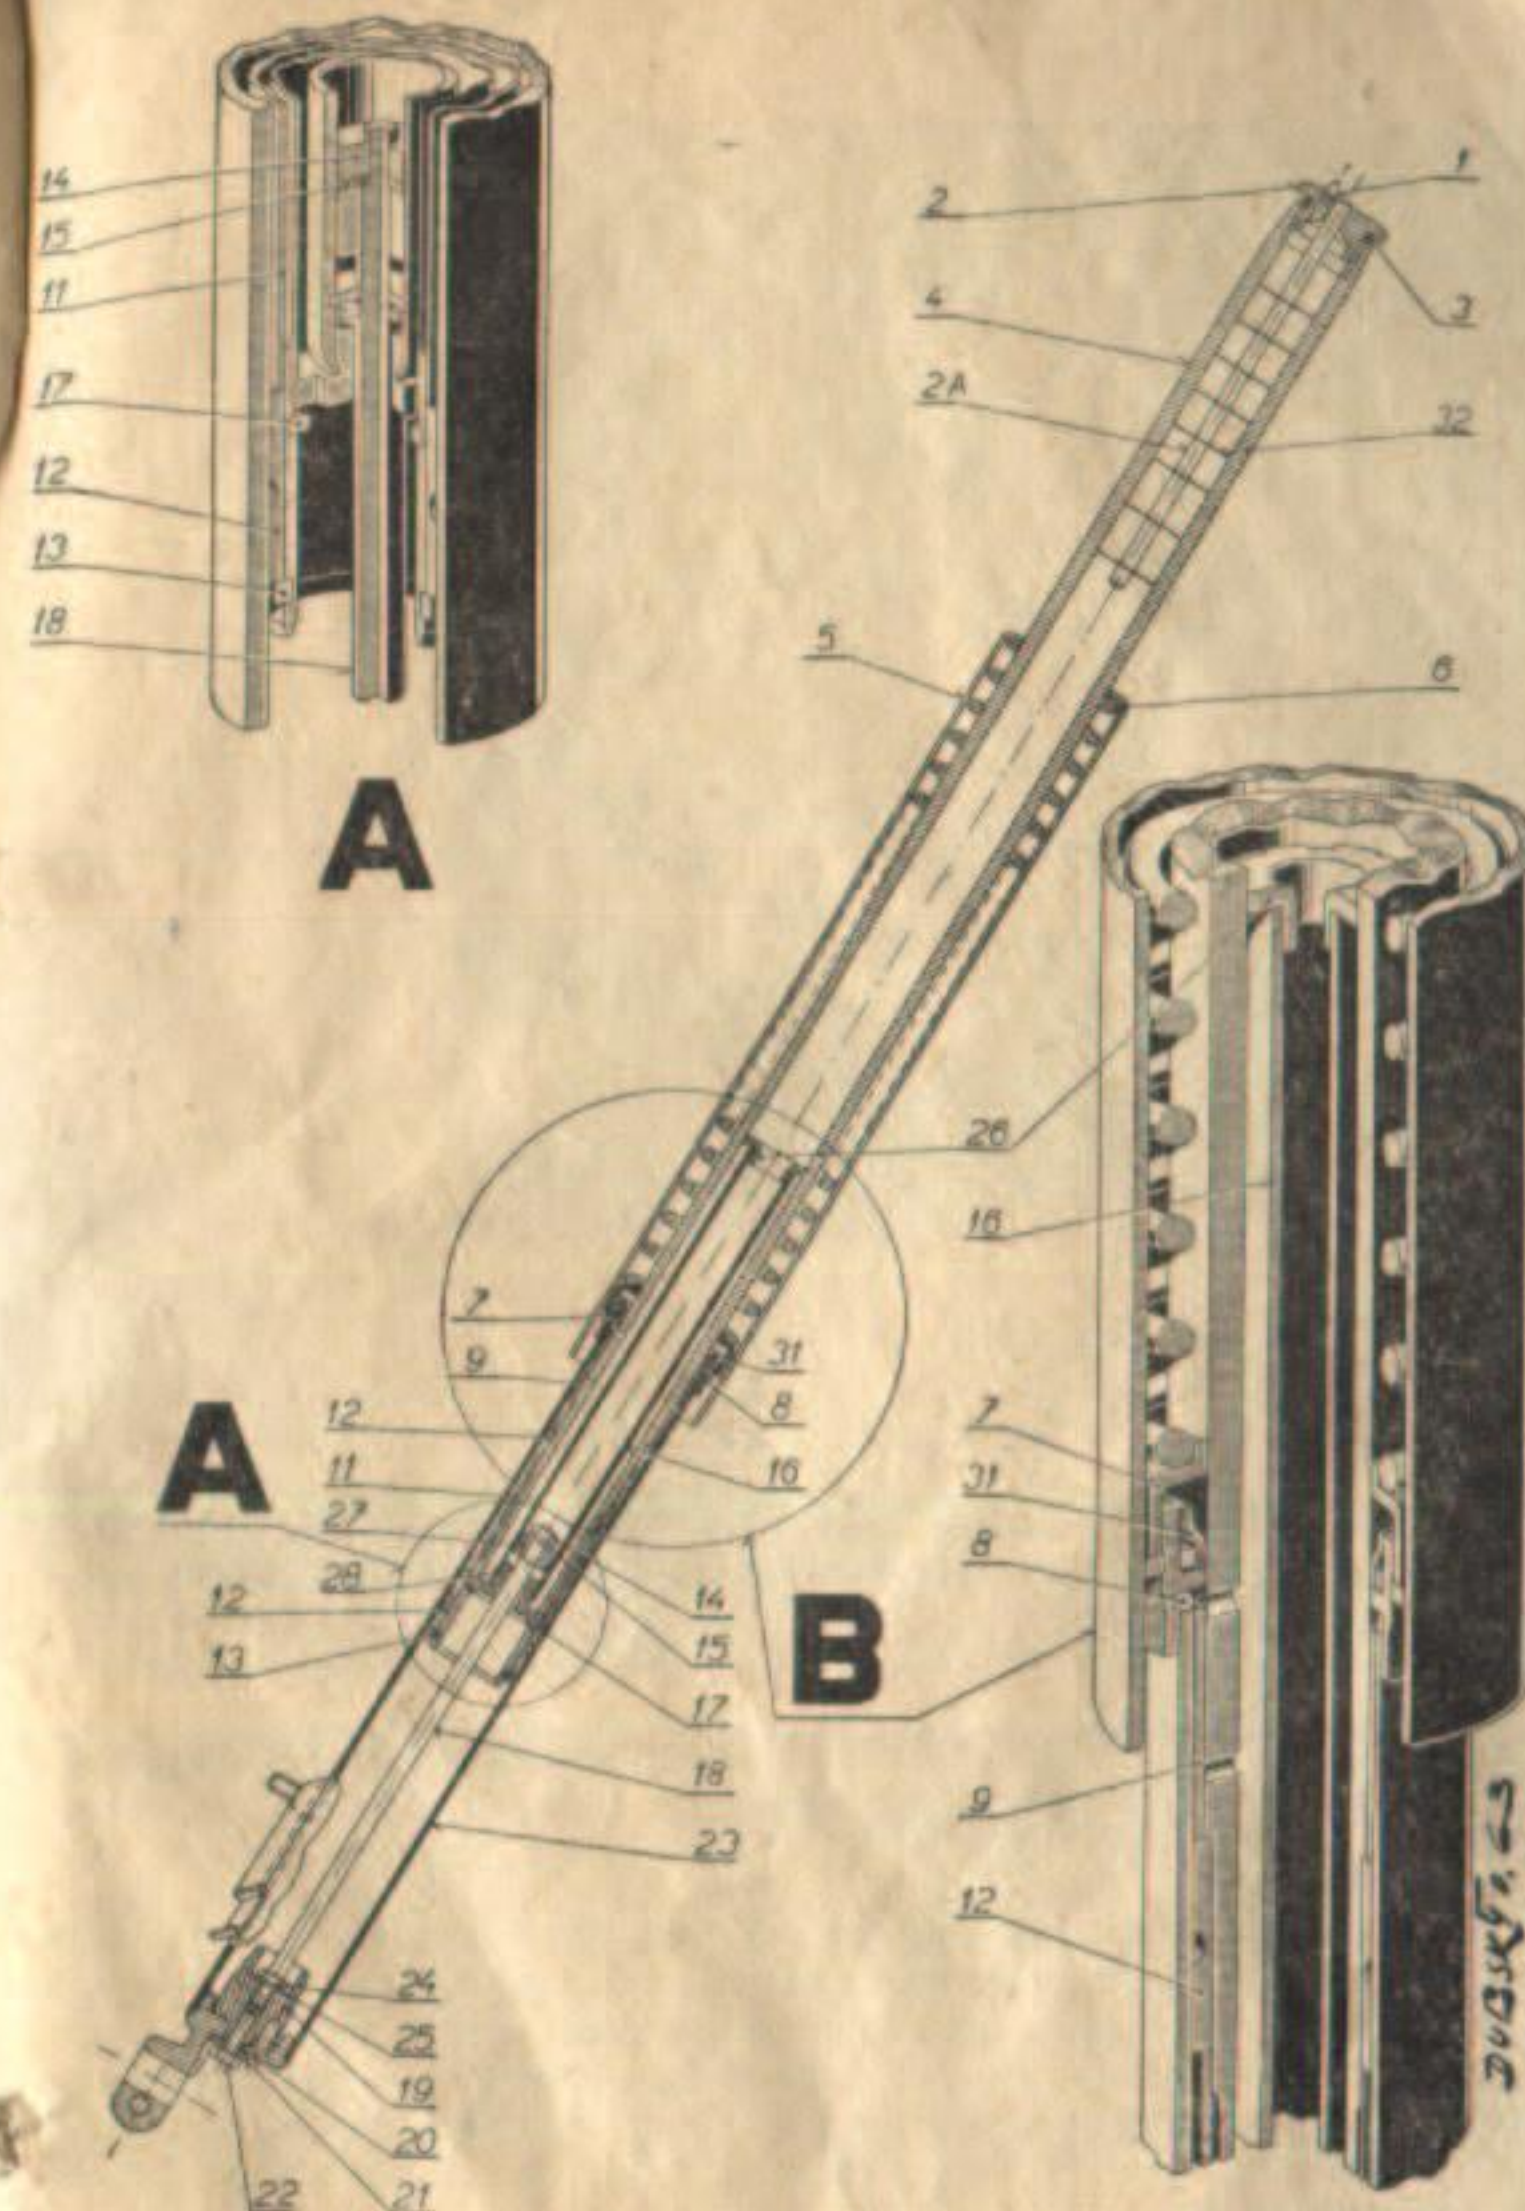

Fig. 15 - Front fork - sectional view
The telescopic front fork dampers (Fig. 15): After the first 600 to 900 miles (1,000—1,500 km) change the damper oil from both front fork legs. Change in the following manner: Remove the front wheel, unscrew the screw (22) on the bottom portion of the fork by about 7 mm, press it into the slider by means of the screw (22), rotate the end piece (19) through approx 90° and let the oil drain out. Now close the slider in the following manner: using the screw (22) turn the end piece (19) into its original position, i. e. **until the end piece (19) pin engages in the hole**. Tighten the screw (22).